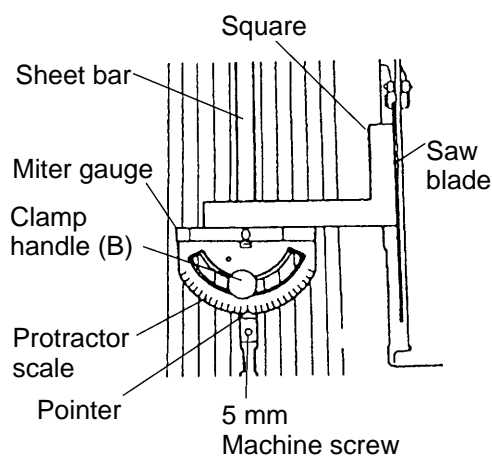

Fig. 18
- (1) Loosen clamp handle (B) and place a square against both the saw blade and the miter gauge. The pointer should indicate 90° on the protractor scale on the miter gauge.
- (2) If the pointer does not indicate 0 on the miter gauge,
- ① Tighten clamp handle (B).
- ② Loosen the 5 mm machine screw on the sheet bar.
- ③ Adjust the pointer to the 90° position and tighten the 5 mm machine screw on the sheet bar (see Fig. 18).
- ④ After adjustment, recheck to see that the pointer now indicates 0.